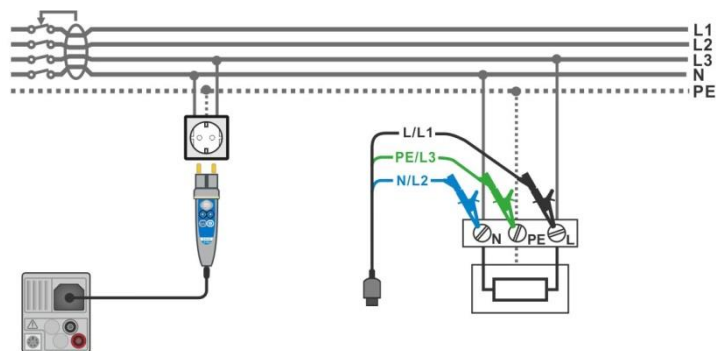

Figure 7.36: Connection of Plug commander and 3-wire test lead
- › Connect test leads or Plug commander to the object under test, see **Figure 7.36**.